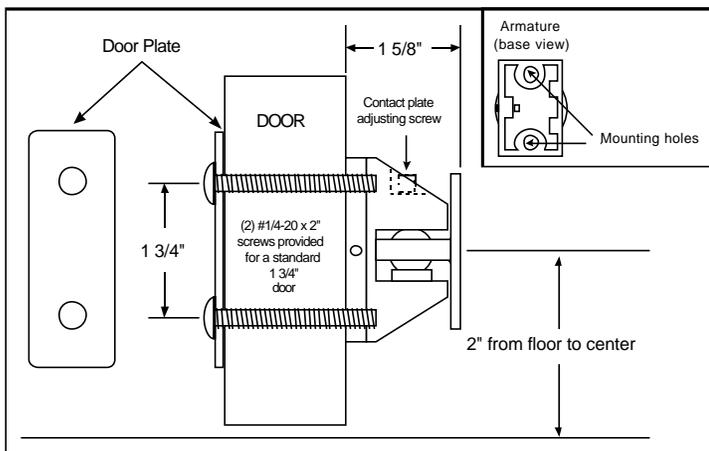

Figure 6. Thru-Bolt Mounting
- Using a 5/32" Allen wrench, turn the contact plate adjusting screw (Figures 6 and 7) counterclockwise to loosen the contact plate.
- Thru-bolt mounting (Figure 6).** Center punch the two holes (at the points marked in step 3) and drill 5/16" diameter through the door. Distance between the center points should equal 1-3/4".
**NOTES:** Thru-bolt mounting is recommended for standard 1 3/4" hollow metal, hollow core or composite type wood doors. For 2" doors use (2) 1/4-20 x 2" bolts.
Secure the armature assembly, with the contact plate adjusting screw facing up, to the door as shown in Figure 6 or 7 using (2) #1/4-20 x 2" screws (supplied).